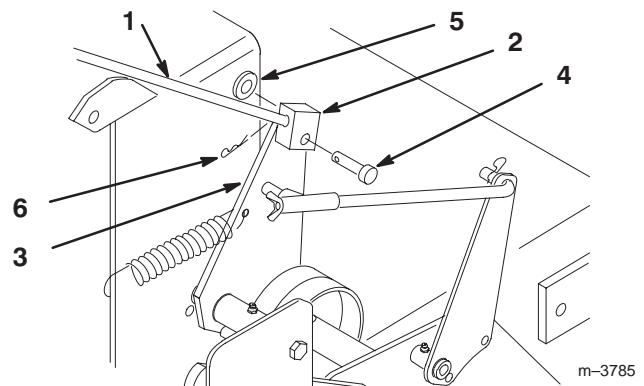

Figure 5
- Thread trunnions equal distance onto each control rod. For a starting point thread on approximately 2 in. (51 mm) (Fig. 5).
- With trunnion rod up, slide clevis pins through rod fittings and mounting holes in idler brackets (from outside) (Fig. 5). Secure with 1/4" (6 mm) washers and hairpin cotters (Fig. 5).